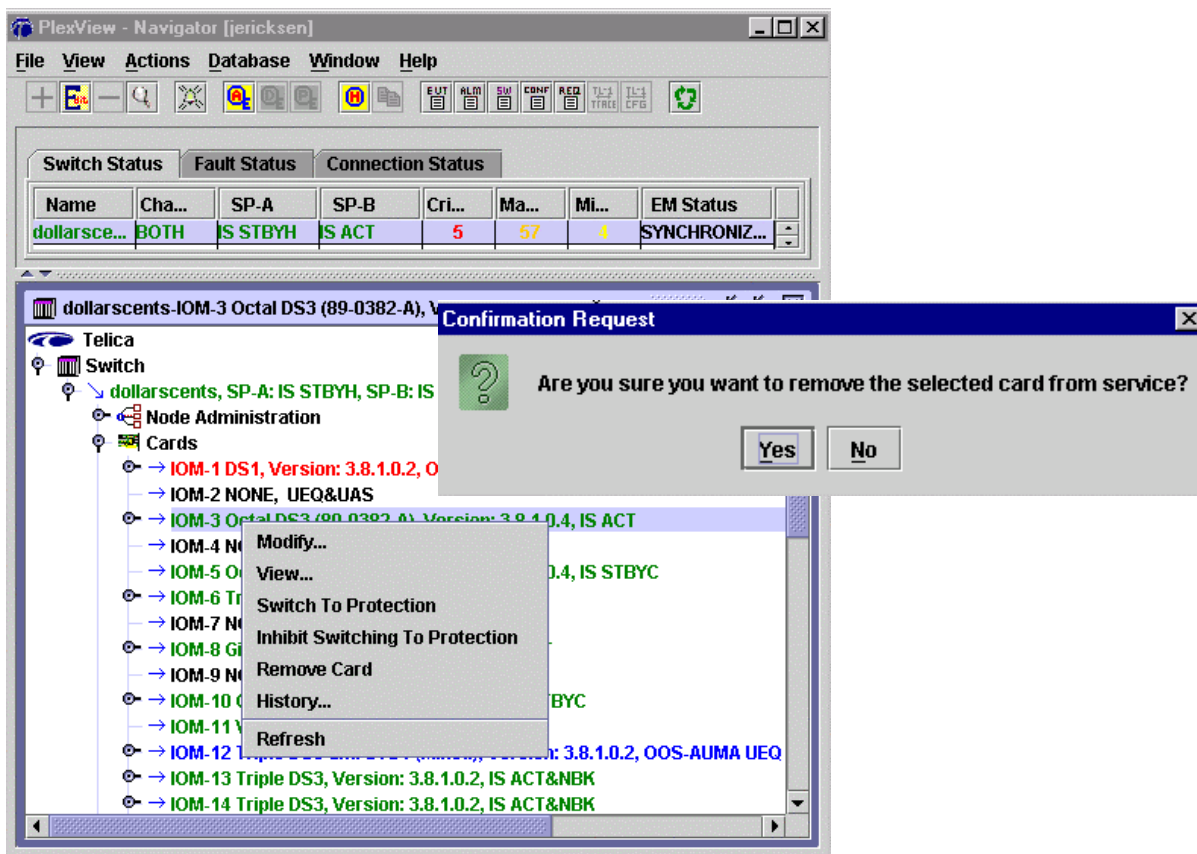

Figure 2. Removing a Module
14. Double-click the switch to select it for the main panel and then double-click *Cards*. Right-click the desired IOM and then select *Remove Card*. A confirmation screen will appear. Select *Yes* to remove the module. Refer to Figure 2.